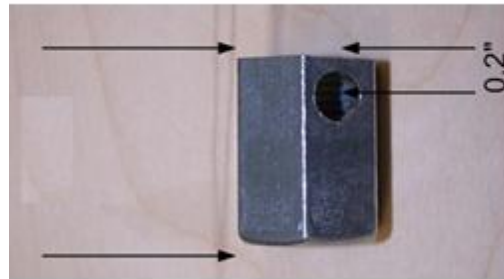

Figure 5: Boom Cylinder Mount
boom cylinder needs to be made. Take the boom cylinder rear mount nut (45) and first drill 1/4" hole in the position that Figure 5 shows. After that, cut the piece to 1.75 inches as shown in Figure 5.
A mounting point for the rear of the boom cylinder needs to be made. Take the boom cylinder rear mount nut (45) and first drill 1/4" hole in the position that Figure 5 shows. After that, cut the piece to 1.75 inches as shown in Figure 5.